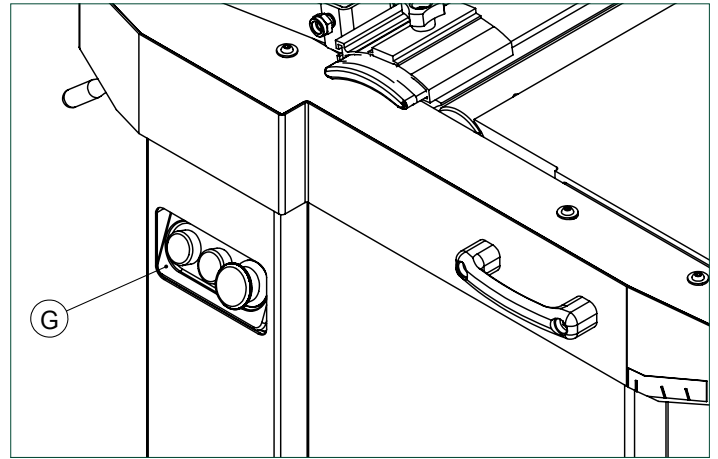

FIG. 4
- Fit the switch (G, Fig.4) onto the bracket with two hex nuts.